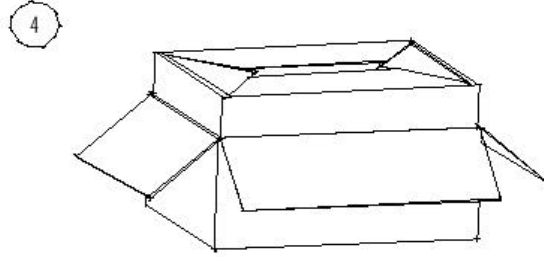

Fig.4
- (4). Fold the LDPE bag opening closed properly as Fig.4.
- (5).Seal the carton with adhesive tape.